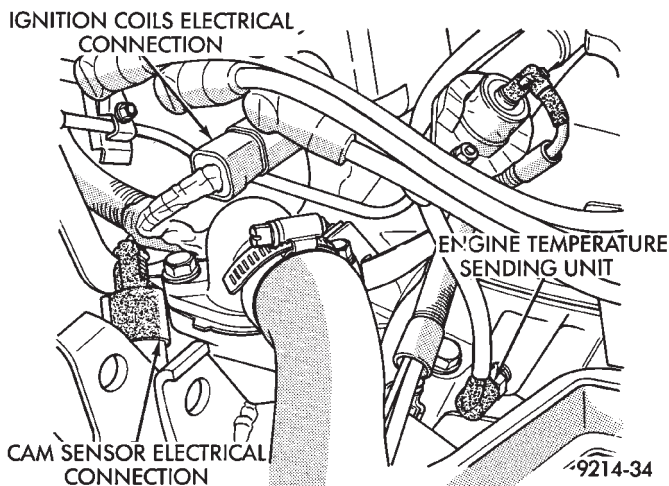

Fig. 3 Camshaft Sensor
(3) Verify the camshaft sensor electrical connector is connected to the harness and not damaged (Fig. 3).
(4) Ensure the engine temperature sensor electrical connector is connected to the sensor and not damaged (Fig. 3).